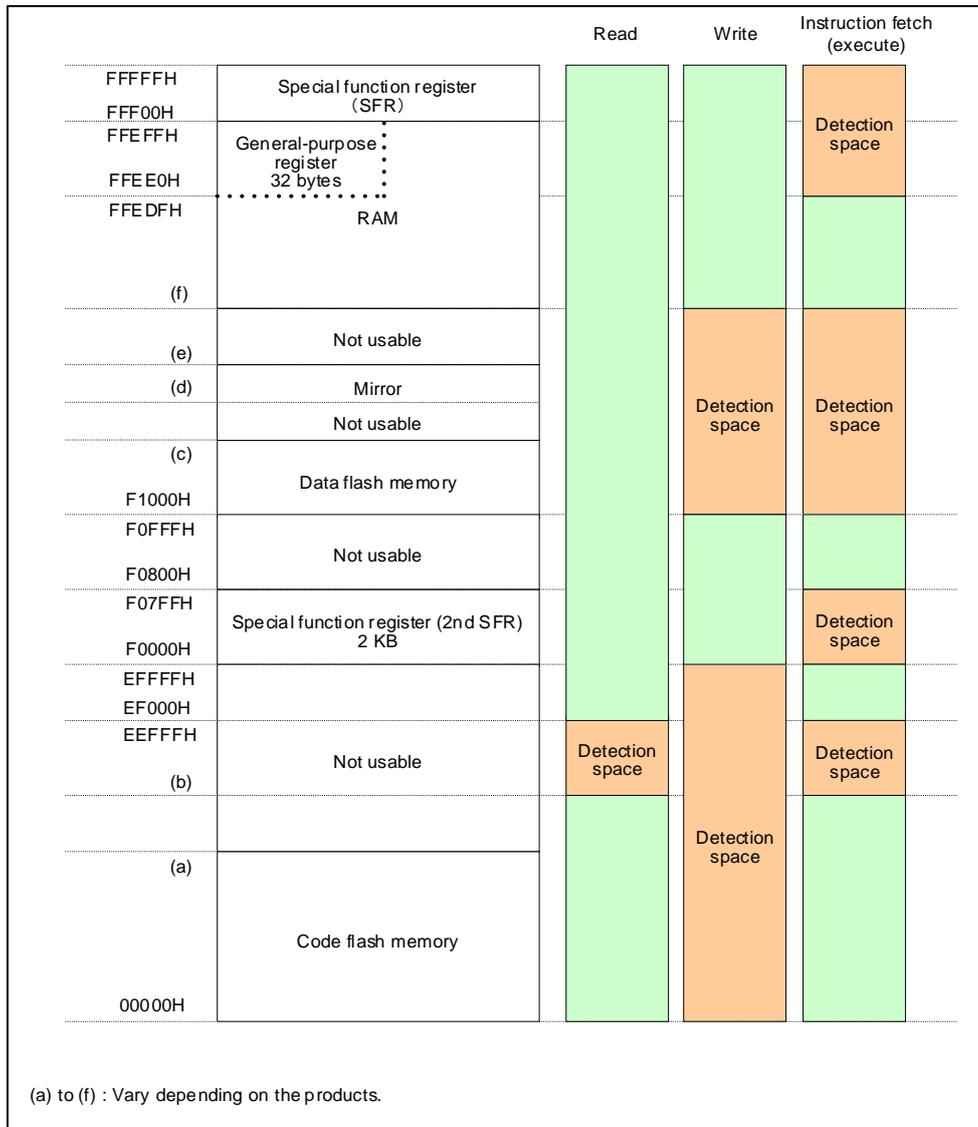

Figure 9-1 Invalid Access Detection Area
The invalid memory access detection function triggers a reset if an invalid access detection space (see Figure 9-1) is accessed.
- (1) When the value of bit 4 (WDTON) in the user option byte (000C0H/020C0H) is set to 1, the invalid memory access detection function is enabled regardless of the setting value to the IAWEN bit.
- (2) With a product having a code flash memory whose size is 16KB/32KB/48KB, a value "FFH" will be read if the space [between the start address of the code flash memory (the address "(a)" in Figure 9-1) and the address 0FFFFH] is invalidly accessed. Also, if an instruction fetch is executed in the same space by an invalid access, a reset is generated due to execution of the invalid instruction.
- (3) With a product having a code flash memory whose size is 96KB, a value "FFH" will be read if the space [between the start address of the code flash memory (an address "(a)" in Figure 9-1) and the address 1FFFFH] is invalidly accessed. Also, if an instruction fetch is executed in the same space by an invalid access, a reset is generated due to execution of the invalid instruction.